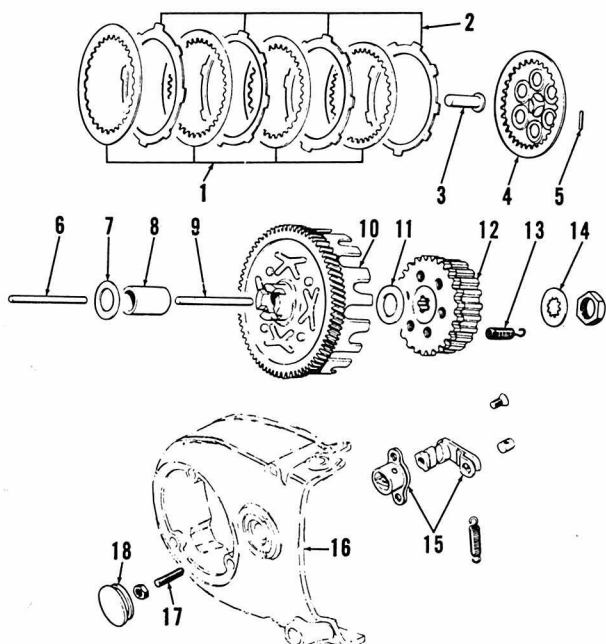

Fig. S10-14 — Exploded view of clutch unit common to all models.
**CLUTCH** A wet multi disc clutch is used on all models. Standard free length of clutch springs (13—Fig. S10-14) is 1.295 inch and springs should